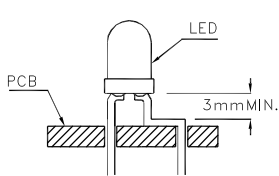

Fig. 5
4. Maintain a minimum of 3mm clearance between the base of the LED lens and the first lead bend. (Fig. 5 and 6)